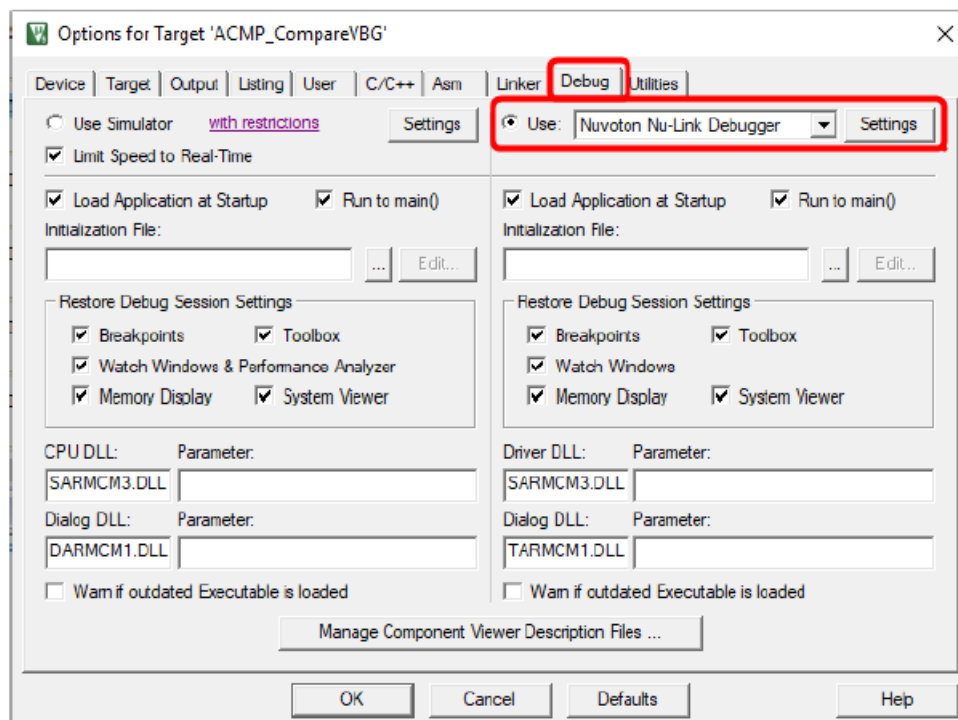

Figure 4-10 Keil MDK Debugger Selection
Step 4: Invoke **Project** → **Options for Target** → **Debug**, and make sure the Use: Nuvoton Nu-Link M0 Debugger option is checked, as shown in Figure 4-10.